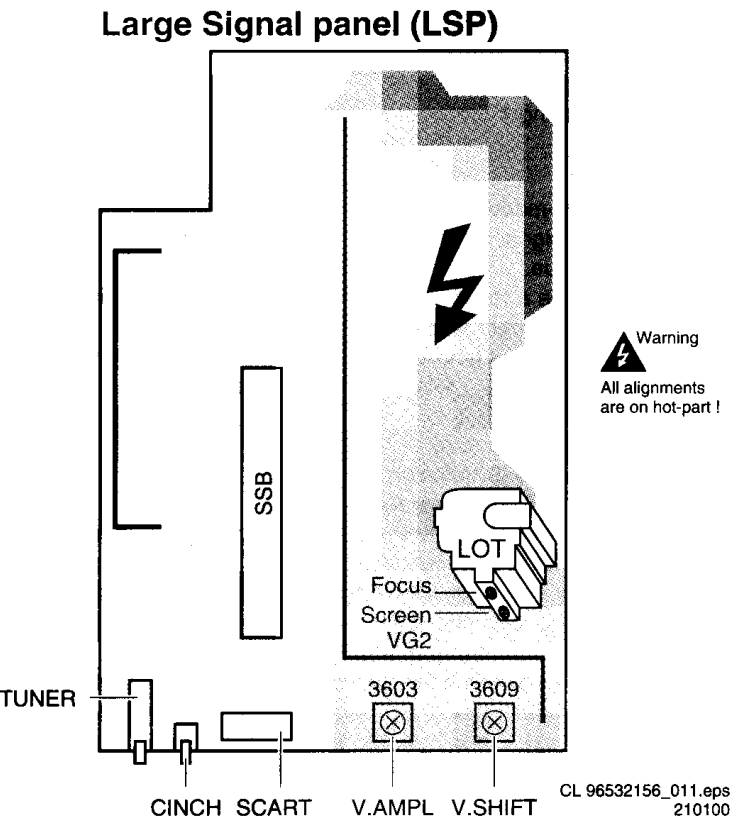

Figure 8-1
2. Adjust the Focus potentiometer (upper potmeter, see figure 8-1) for an overall optimum focusing of the picture.
4. Adjust the Vg2 potentiometer (lower potmeter, see figure 8-1) so that the measuring pulse with the highest noted level is on $160 \pm 3 V_{DC}$ level.
2. Align the vertical amplitude with R3603 (see Fig. 8-1) so that the complete test pattern is visible.
2. Align the vertical centering with R3609 (see Fig. 8-1) so that the test pattern is located vertically in the middle.